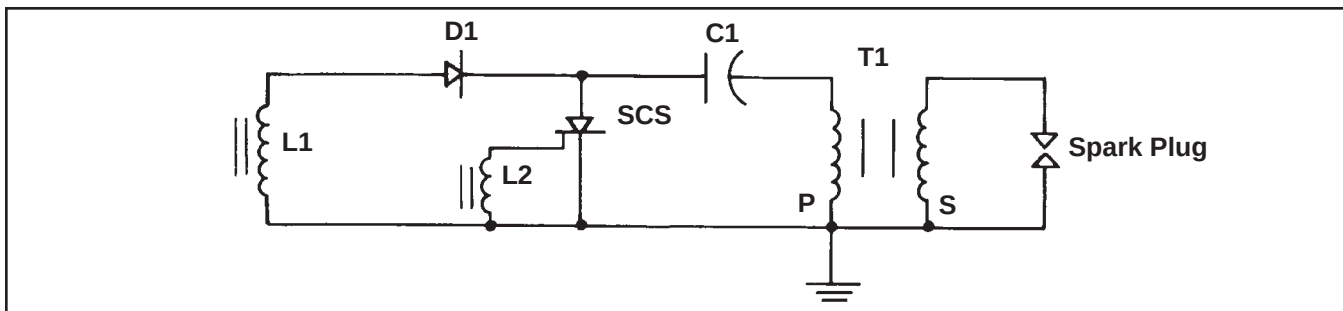
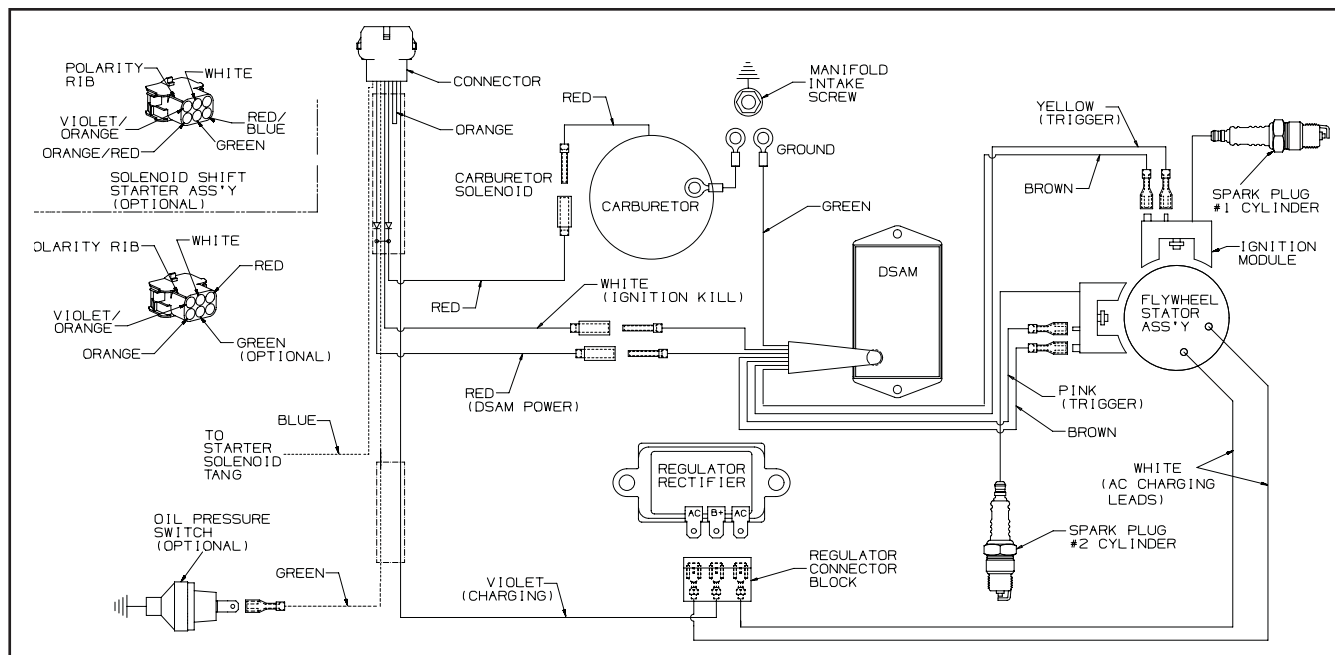

Figure 7-5. Capacitive Discharge (CD) Ignition Module Schematic.
Figure 7-9. Digital Spark Advance Module (DSAM) Ignition System.
DSAM, previously known as Smart-Spark™, equipped engines utilize an electronic capacitive discharge ignition system with electronic spark advance. A typical application (Figure 7-9) consists of the following components:
- Two electronic capacitive discharge ignition modules which mount on the engine crankcase (Figure 7-9).
- A spark advance module which mounts to the engine shrouding (Figure 7-9).
Operation: The ignition module for this system operates in the same fashion as the fixed timing module, except the trigger circuit for the semi-conductor (L2, Figure 7-5) is replaced by the spark advance module (Figure 7-9).
The pulse generated by the input coil of the ignition module (L1, Figure 7-5) is fed to the input of the conditioning circuit. The conditioning circuit shapes this pulse, putting it in a useable form for the additional circuits. This pulse starts the charge pump, which charges a capacitor in a linear fashion that is directly related to the engine speed. At the same time the pulse resets the delay circuit for the length of the pulse width. The capacitor is off during this period and no output is generated. As soon as the original pulse drops back to zero, the capacitor in the delay circuit begins to charge.
This pulse turns “ON” the CD ignition module semi-conductor. Energy is then transferred to the secondary output transformer (T1, Figure 7-5). The high voltage pulse generated here is delivered to the spark plug, causing arcing of the spark gap and igniting the fuel-air mixture in the combustion chamber. As the trigger pulse is generated, all associated circuits are reset, their capacitors discharged. The longer it takes the delay circuit to surpass the charge pump capacitor voltage, the later the trigger pulse will occur, retarding the timing accordingly.